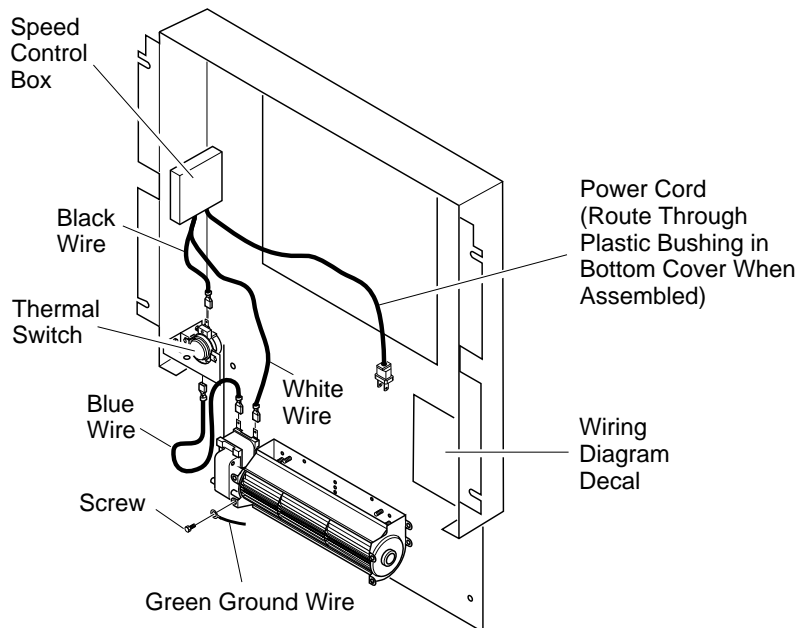

Figure 20 - Blower Wiring Layout
- Place the green ground wire between the bottom hole on the blower assembly and the hex screw and tighten (see Figure 20).
- Connect the blue wire to the blower assembly and one side of the thermal switch (see Figure 20).
- Connect the black wire to the other side of the thermal switch (see Figure 20).
- Connect the white wire to the other terminal on the blower motor assembly (see Figure 20). Make sure the thermal switch has been properly installed to fit against back of fireplace insert after the rear cover assembly has been reinstalled.
- Peel off the backing paper and stick the supplied wiring diagram decal on the inside of rear cover as shown (see Figure 20).